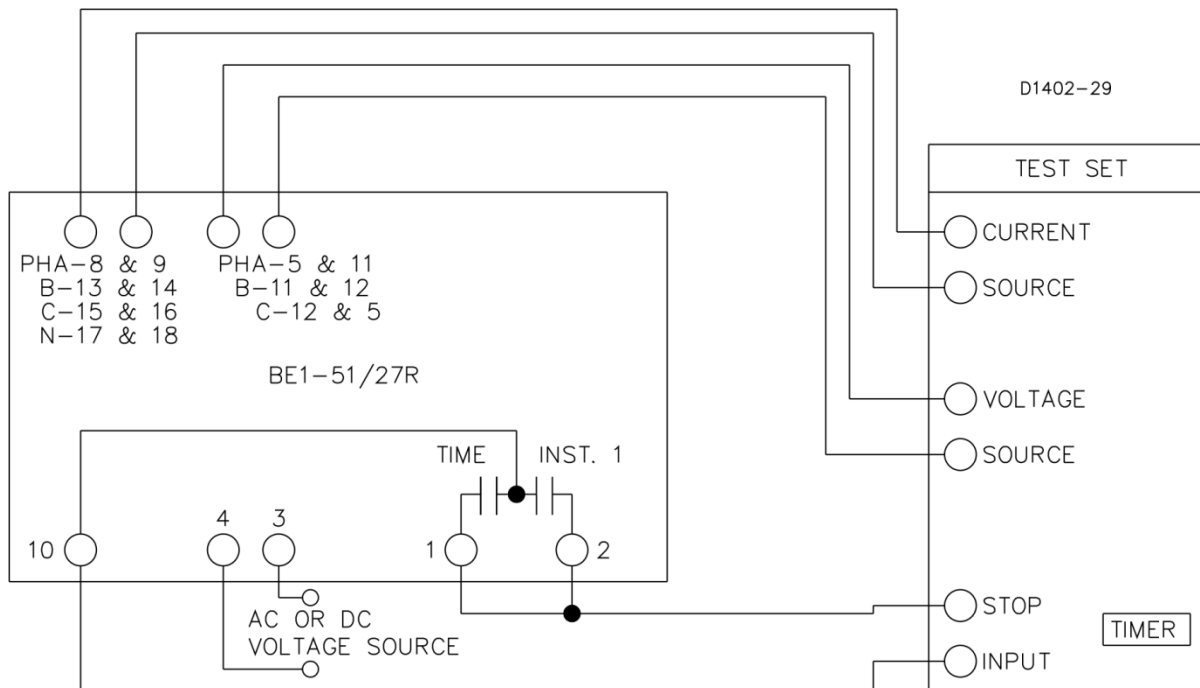

Figure 5-5. Test Setup for Sensing Input Type E or F (Three-Phase with Neutral Sensing)
- (e) Sensing Input Type E or F (Three-Phase with Neutral Sensing). Refer to Figure 5-5.